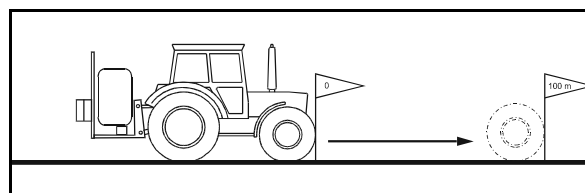

Fig. 44
2. Mark the start and the finish points (Fig. 44).